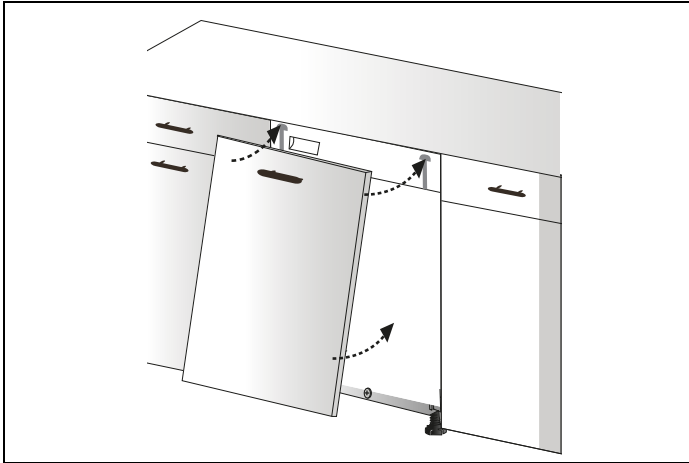

Fig. 29
7) Door mounting plastics located on the wooden door are fitted with the dishwasher corresponding to the discharges located on the control panel and are assembled as shown in Fig. 29 .